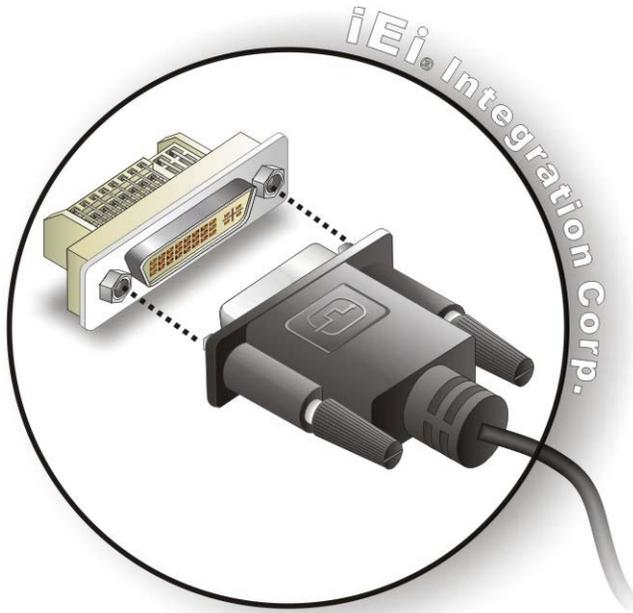

Figure 4-15: DVI Connector
Step 3: Insert the DVI-I connector Once the connectors are properly aligned with the male connector, insert the male connector from the digital display device into the female connector on the IMB-Q870-i2. See Figure 4-15.